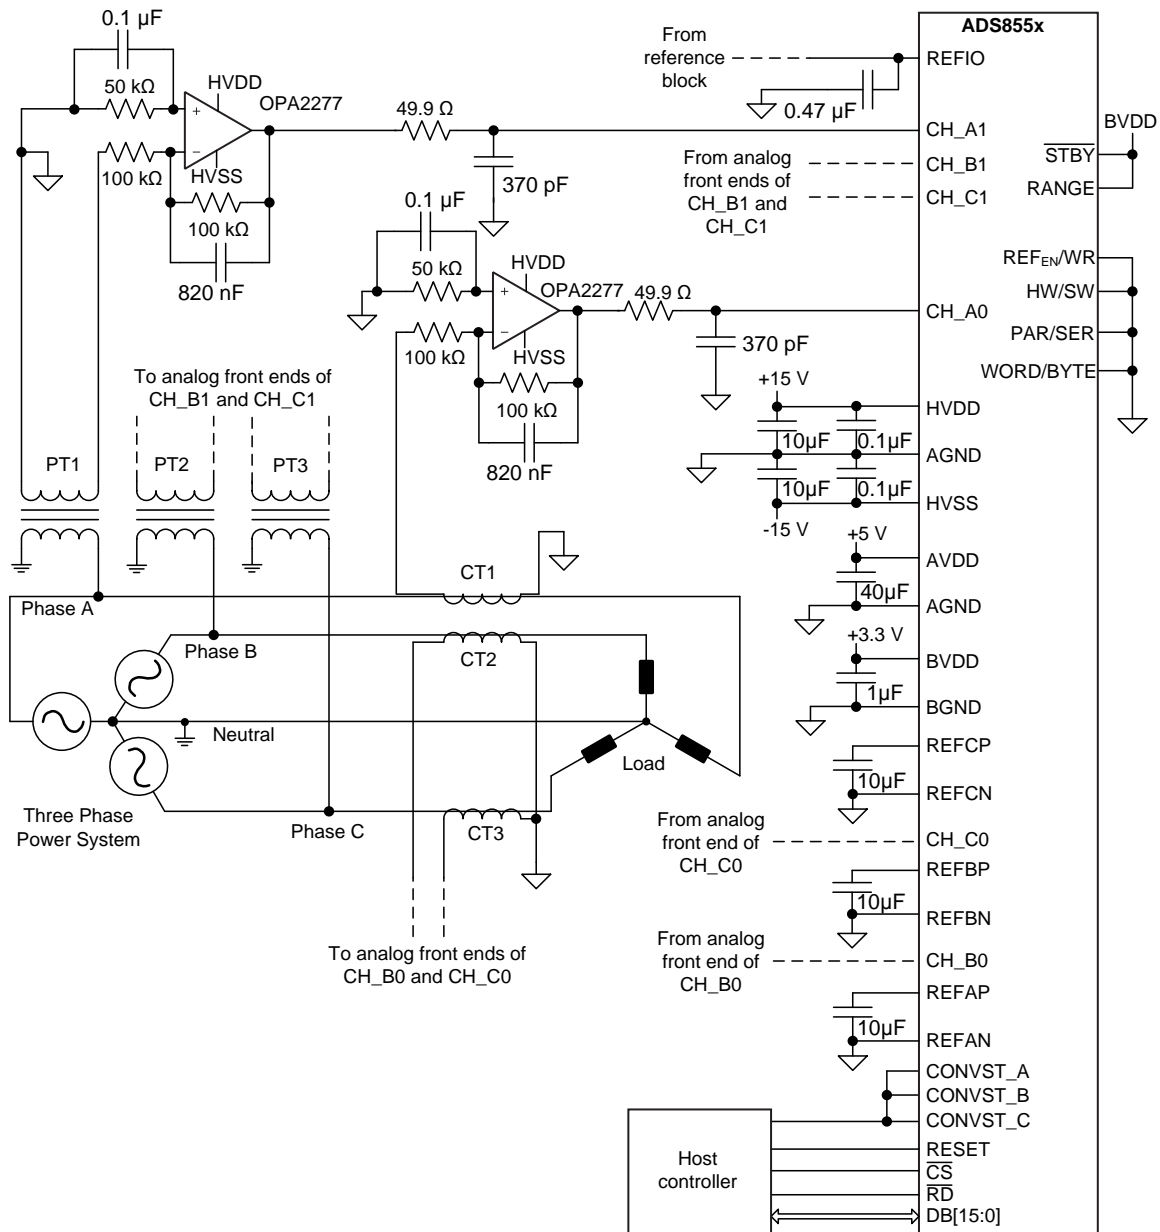

Figure 43. Simultaneous Acquisition of Voltage and Current in 3-Phase Power System
This section describes the measurement of electrical variables in a 3-phase power system. The accurate measurement of electrical variables in a power grid is extremely critical because it helps determine the operating status and running quality of the grid. Such accurate measurements also help diagnose problems with the power network thereby enabling prompt solutions and minimizing down time. The key electrical variables measured in 3-phase power systems are the three line voltages and the three line currents as shown in Figure 43. These variables enable metrology and power automation systems to determine the amplitude, frequency and phase information to perform harmonic analysis, power factor calculation and power quality assessment among others.
- Output range of the potential transformers (elements labeled PT1, PT2 and PT3 in Figure 43)
- Output range of the current transformers (elements labeled CT1, CT2 and CT3 in Figure 43)
The potential transformers (PTs) and current transformers (CTs) used in the system depicted in Figure 43 provide the six input variables required. These transformers have a ± 10 -V output range. Although the PTs and CTs provide isolation from the power system, the value of R_{IN} is selected as 100 k Ω to provide an additional, high impedance safety element to the input of the ADC. Moreover, selecting a low-frequency gain of -1 V/V (as shown in Equation 5) provides a ± 10 -V output that can be fed into the ADS8556 device; therefore, the value of R_F is selected as 100 k Ω too.
The primary goal of the acquisition system depicted in Figure 43 is to measure up to 20 harmonics in a 60-Hz power network. With this in mind, the analog front end must have sufficient bandwidth to observe signals up to 1260 Hz as shown in Equation 6.